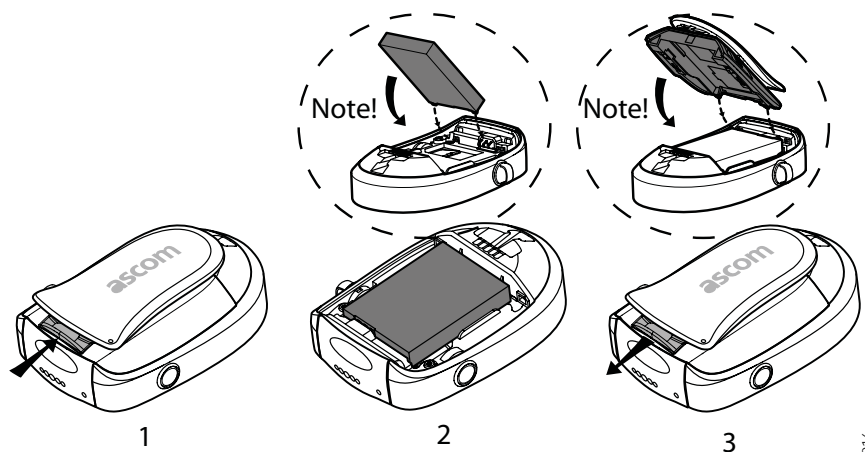

Figure 16. Battery replacement.
- 3 Insert the new battery into the battery compartment, see (2) in figure 16 on page 25.